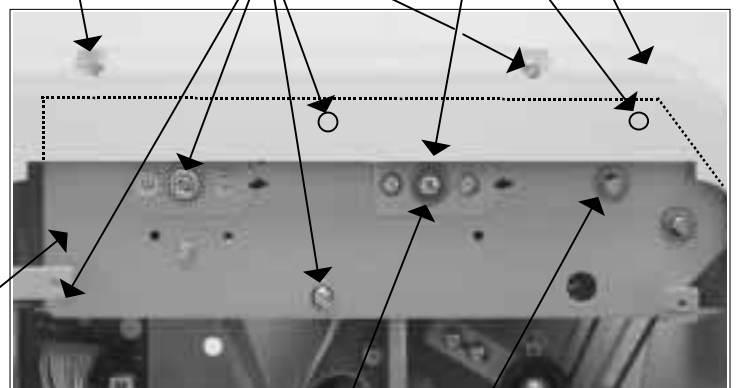

Fig. 6-33
6.	Remove (2) screws to detach top cover. Fig.6-33
7.	Remove (6) screws to detach gear plate. Fig.6-33